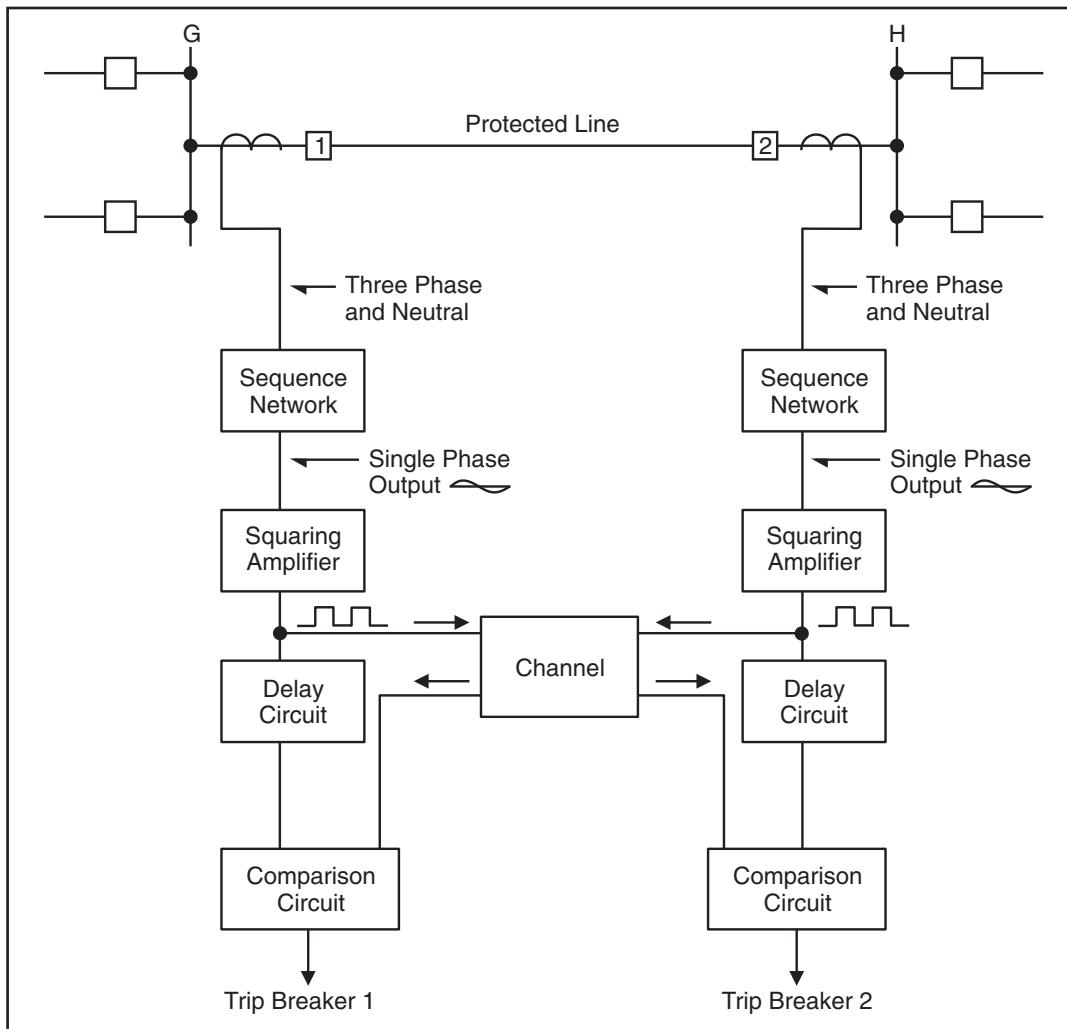

Figure 3–2. Phase-Comparison Blocking, Basic Elements
The basic elements for directional-comparison blocking (DCB) systems are shown in Figure 3–1a and Figure 3–1b. At each terminal, the phase and ground trip units (P) must be directional and set to overreach the remote terminal; that is, they must be set to operate for all internal faults. Nominal settings of the distance units are 120 to 150 percent of the line. The start units (S) must reach farther, or be set more sensitively, than the remote trip units. Thus S₁ must be set more sensitively than P₂ or reach farther behind bus G. Likewise, S₂ must be set more sensitively than P₁ or reach farther behind bus H. In any case, the S and P relays should be similar in type. If the trip unit (P) is a directional overcurrent ground relay, the start (S) ground relay should be a similar non-directional overcurrent unit. The same principle applies for the phase relays.
Operation of the directional-comparison scheme in Figure 3–1a, Figure 3–1b & Table 3–1 is shown for external and internal faults. Subscript 1 indicates relays at station G for breaker 1; subscript 2, relays at station H for breaker 2. (Figure 3–1c shows a solid-state logic version of Figure 3–1b.)
A sample schematic for the KA-4 relaying system is shown in Figure 3–5a. A sample schematic for a basic microprocessor relay system is shown in Figure 3–6. Figures 3–7a & 3–7b illustrate some GE EM relay schematics.
Basic elements of the phase-comparison systems are shown in Figure 3–2. The system uses a composite sequence current network to provide a sin-
The basic operation of the system is shown in Figure 3–3, at the end of this section. FD₁ and FD₂ at both terminals operate for an internal fault (F_I). The square wave inputs to the AND from the local currents are essentially in phase with those transmitted via the channel from the remote terminal. The local square wave turns the carrier “ON” and “OFF” to provide the square wave receiver output for the remote terminal.
For an external fault, such as F_E in Figure 3–3, blocking is essentially continuous, since the remote wave input to the AND is out-of-phase with the local square wave. The secondary ct currents are essentially out-of-phase for an external fault. The
The setting coordination of FD₁ and FD₂ overcurrent units is the same as for the current-only system. Settings for the two three-phase distance units are shown in Figure 3–4. Both 21S and 21P distance relays must be set to overreach both the local and